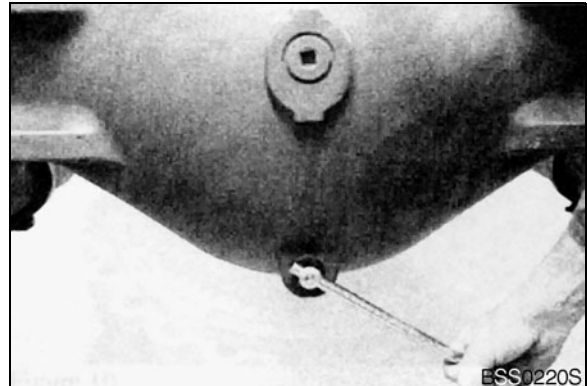
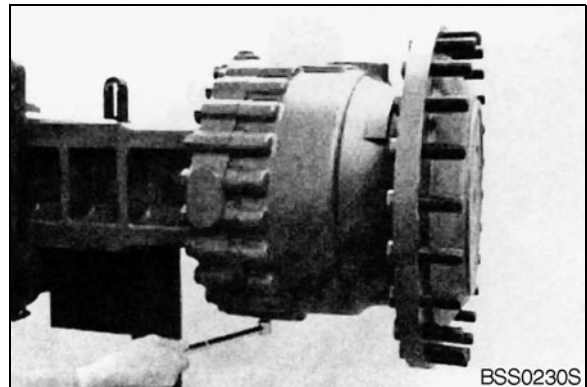

Figure 17
Figure 18
2. Remove drain plugs (3x, Figure 17 and Figure 18) and drain oil from axle casing.